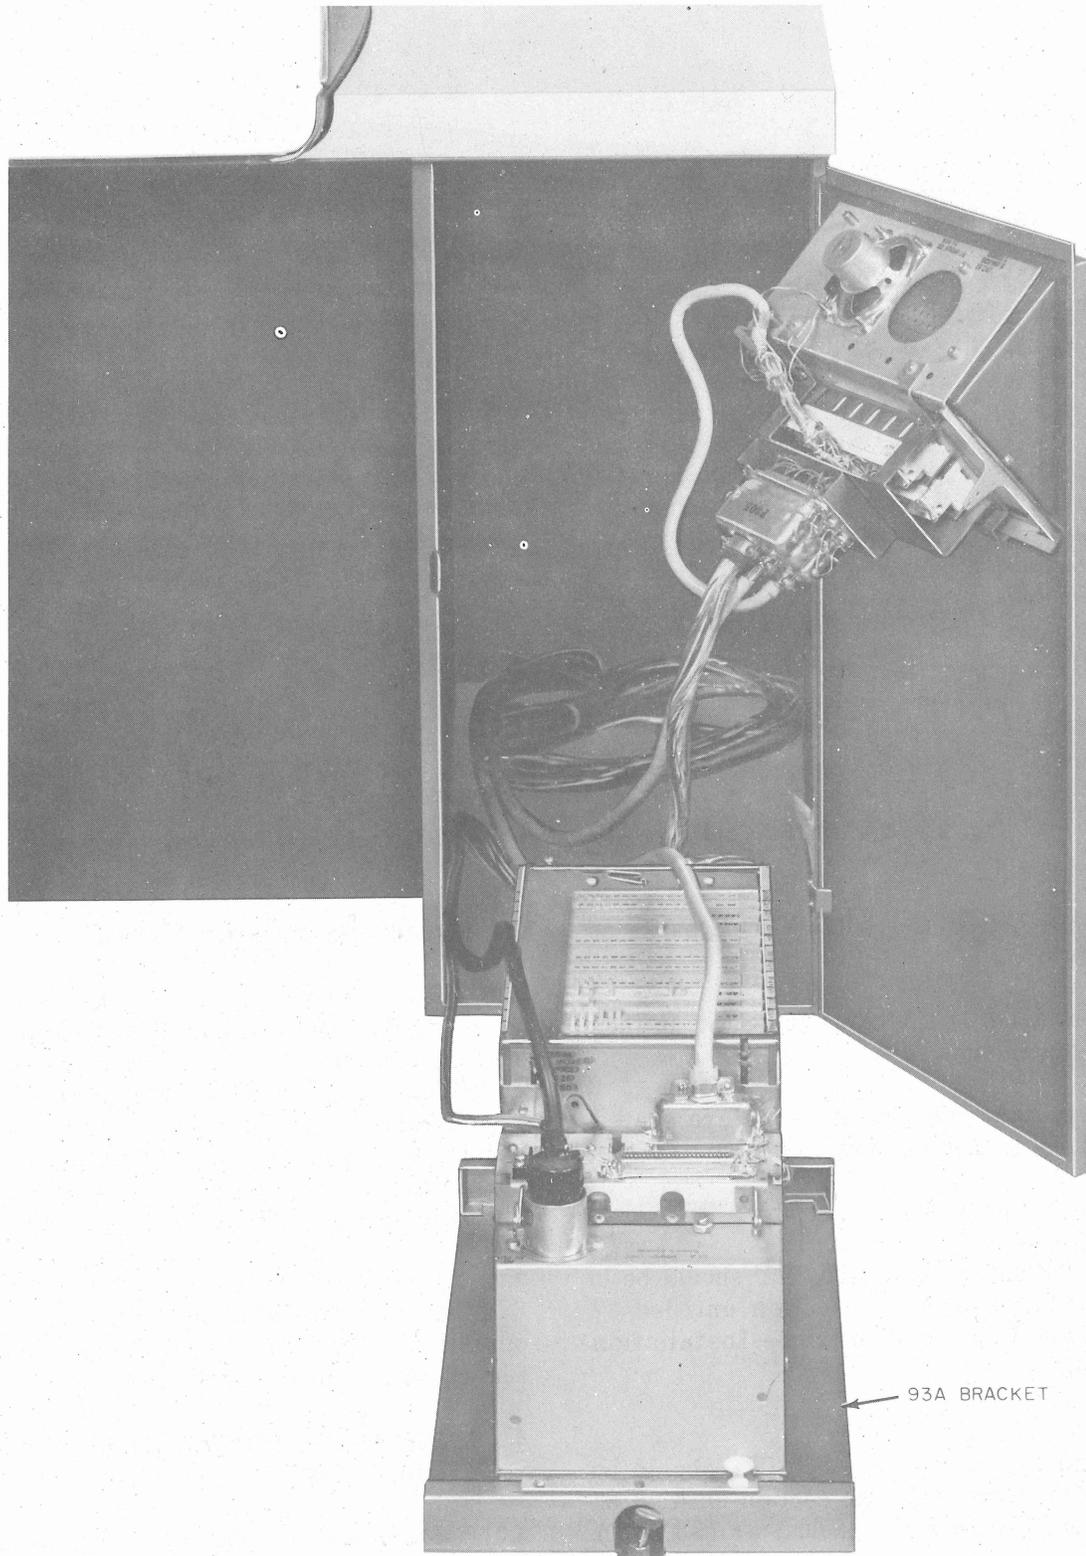

Fig. 1—37-Type Station With Controller in Maintenance Position
- (1) Open door on right-hand front side of TTY pedestal.
- (2) Raise plunger on front of 93A mounting bracket and slide controller and 93A bracket forward.
- (3) Carefully place controller and 93A bracket on floor in front of TTY (Fig. 1).